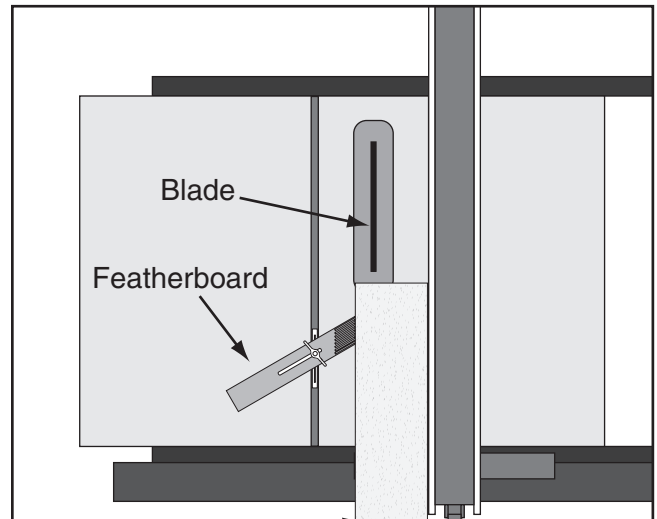

Figure 79. Featherboard installed in miter slot and supporting workpiece for ripping cut.
3. Slide featherboard miter bar into miter slot, making sure fingers slant toward blade, as shown in **Figure 79**.